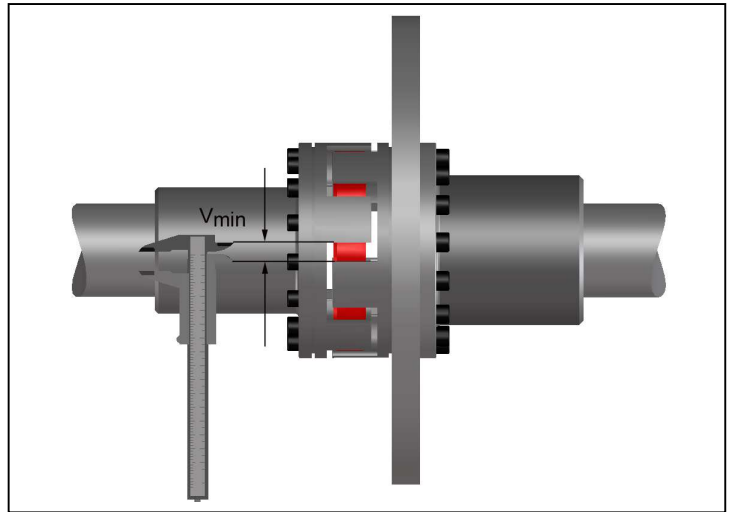

Fig. 14
- Measure the claw distance 'V' in circumferential direction across the buffers to which the claws rest on both sides (Fig. 14). The adjacent buffers do not contact the claws.